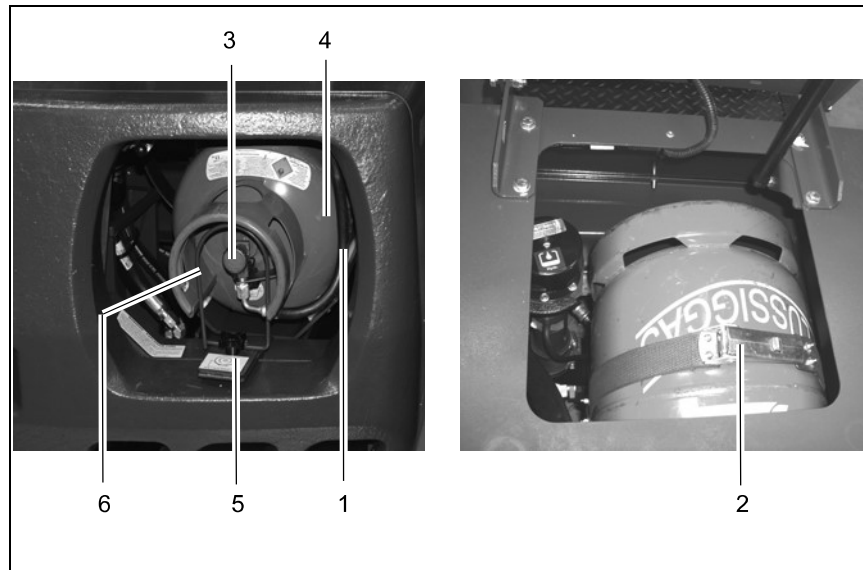

Fig.15
- Close the extraction valve (Fig. 15/3) of the LPG cylinder from the driver's seat, wait until the engine stops and switch off the engine.
- Disconnect the pressure hose (Fig. 15/1) from the extraction valve (left-hand thread).
- Loosen and remove the star knob (Fig. 15/5) and then pivot the bar (Fig. 15/6) to the front.
- Loosen the fastening device (Fig. 15/2) of the LPG cylinder holder and remove the empty LPG cylinder (Fig. 15/4).